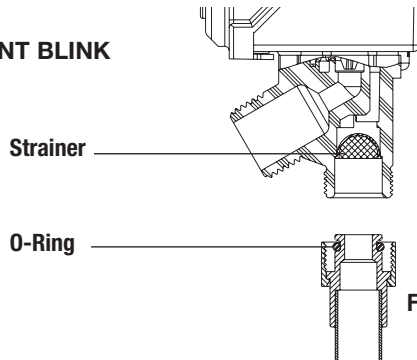

Figure 1
2. Service strainers on IntelliFlow™ (see figure 1).